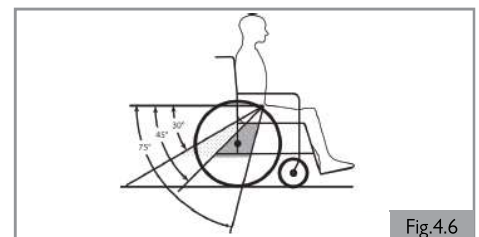

Fig.4.6
18. A steeper (greater) angle within the preferred zone is desirable closer to, but not exceeding, 75 degrees (Fig 4.6).